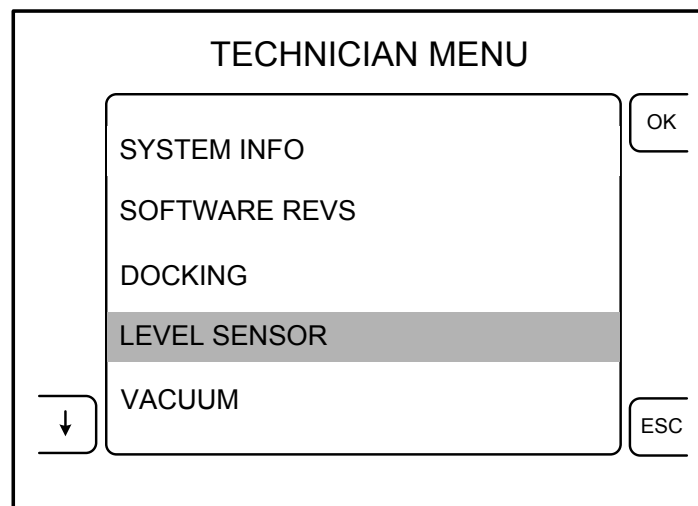

Figure 7: Select the LEVEL SENSOR Menu
3. From the technician menu, push the buttons next to the arrow icons (on the left side) to highlight the LEVEL SENSOR menu and press OK to select the level sensor menu. (see figure 7)